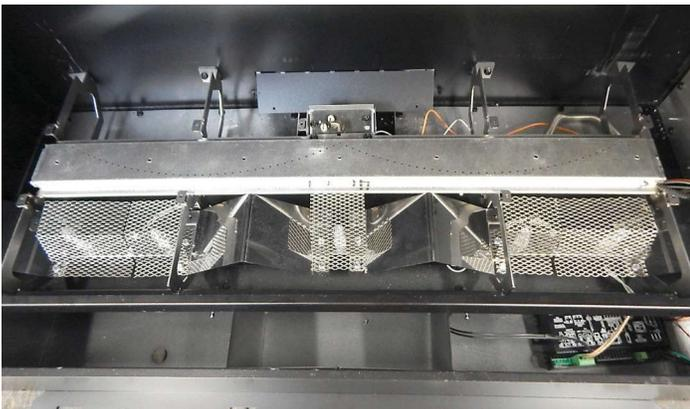

Figure 16
20. **Figure 16** shows completed view of the LK9 Light kit in the DVLL36BP Fireplace.